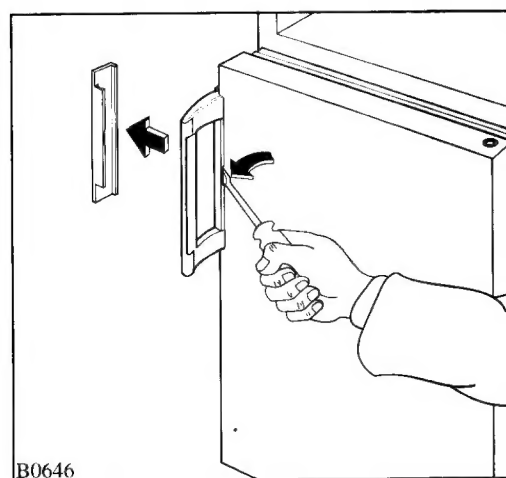

Fig. 3
- Take off the handle cover first (Fig. 3).